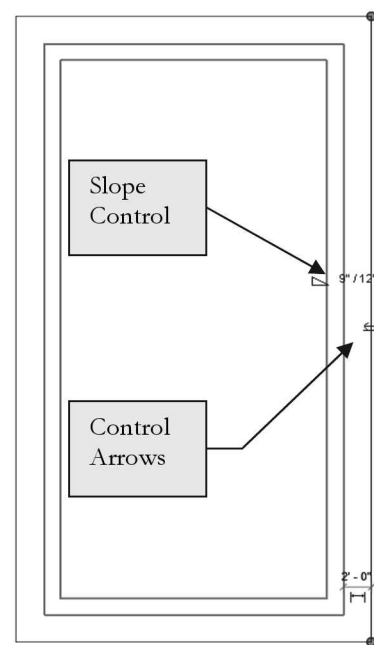

FIGURE 6-1.8 Selected walls
32. Select the remaining three walls (Figure 6-1.8).
FYI: You can also change the slope of the roof by changing the *Slope Control* text (see Figure 6-1.8); just select the text and type a new number.